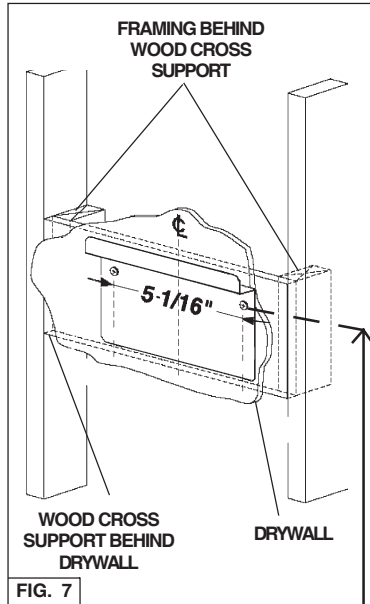

FIG. 7
- Construct wood wall **framing** that is **flush** with interior surface of wall studs. Fig. 7.